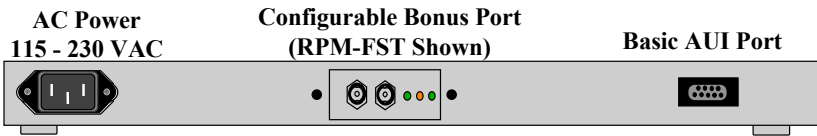

Figure 2.2.2c: Rear view - Magnum 1016 and 1024 Workgroup Hubs
In the rear, the basic AUI (standard female) port, shown in Figure 2.2.2c, may be used for a direct connection with an AUI drop cable or for connection to any media type via an external mini-transceiver. When using standard AUI cabling to connect to other Ethernet devices, it is important to consider the AUI segment length, including any cascading. Refer to Section 3.3.2 for detailed information on the basic AUI port, connector pins and standard cable length requirements. (NOTE: The basic AUI port is *NOT* an RPM-AUI, it is simply an AUI port without any LEDs.)
The Bonus Port slot of a Magnum 1016 or 1024, shown in Figure 2.2.2c, may be optionally configured with any Magnum Port Module (PM). This option gives the Magnum 1016s and 1024s great flexibility to easily conform to any standard Ethernet media environment. When configured with a Repeater Port Module (RPM), the rear port can be used for direct connection to any standard Ethernet media. With a Bridge Port Module (BPM), the rear port is used to bridge-isolate the Magnum hub from the rest of the network, increasing bandwidth for both the local users and the rest of the network. Refer to Section 2.4 for Magnum Port Module information.